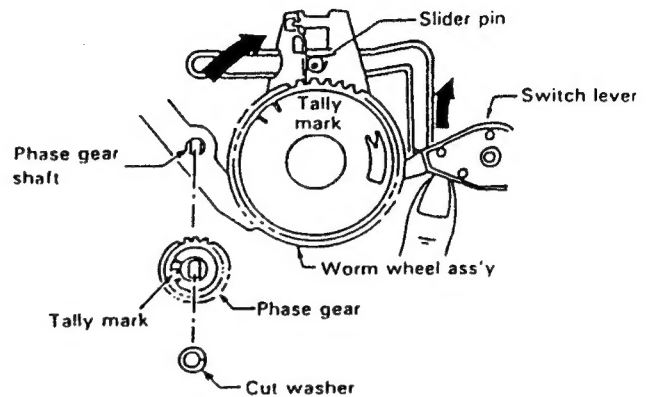

Figure 1-7.
5. Place the slider pin just above the worm wheel assembly (Figure 1-7). (The retainer of the slider is locked at two positions here. So unlock it as in the Figure 1-8.)
6. Pull out the worm wheel assembly toward you pressing the switch lever upward. (Figure 1-7)